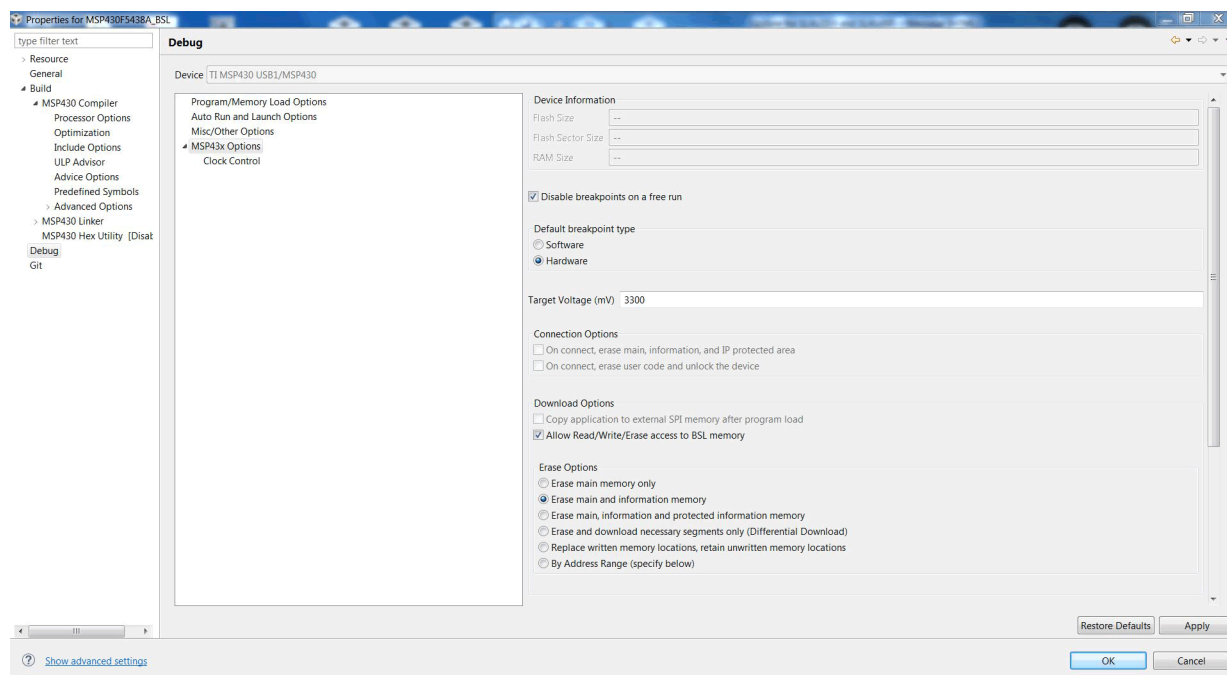

Figure 13. Debug Setup
- a. After the project is imported, go to the Project Properties, and configure the programming setup (see Figure 13).
- b. As Figure 13 shows, select Debug → MSP43x Options.